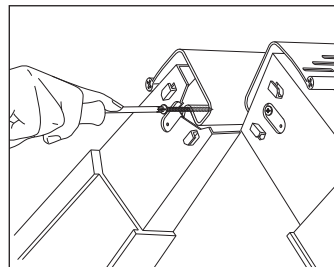

Fig. 6 – Screw verge units at apex of verge
- 13 At apex of roof, where battens are located, retain top course dry verge unit by securing a 30mm long pozidrive head screw (supplied) into second series of holes in verge unit and locate it behind nib section of dry ridge batten (Fig. 6).